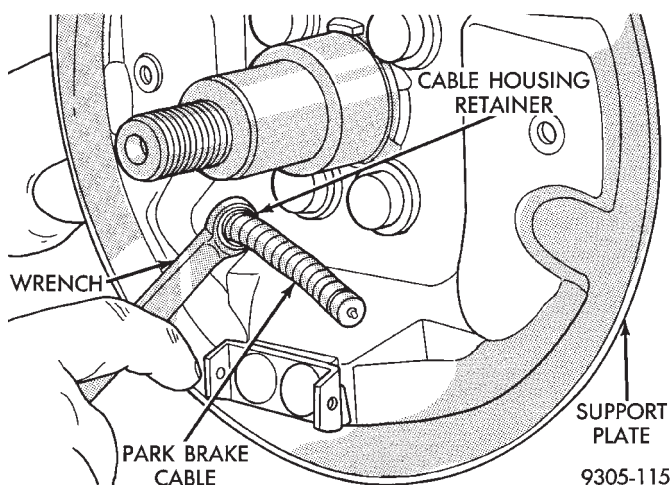

Fig. 79 Removing Park Brake Cable From Support Plate
(6) Position a 1/2 box wrench over the retainer fingers on the end of the parking brake cable (Fig. 79). Compress cable housing retaining fingers and start housing out of support plate (Fig. 79). Remove wrench when retainer is free from the park brake cable mounting hole in the rear brake support plate. Alternate method is to use a aircraft type hose clamp over cable housing end fitting compressing the three fingers.